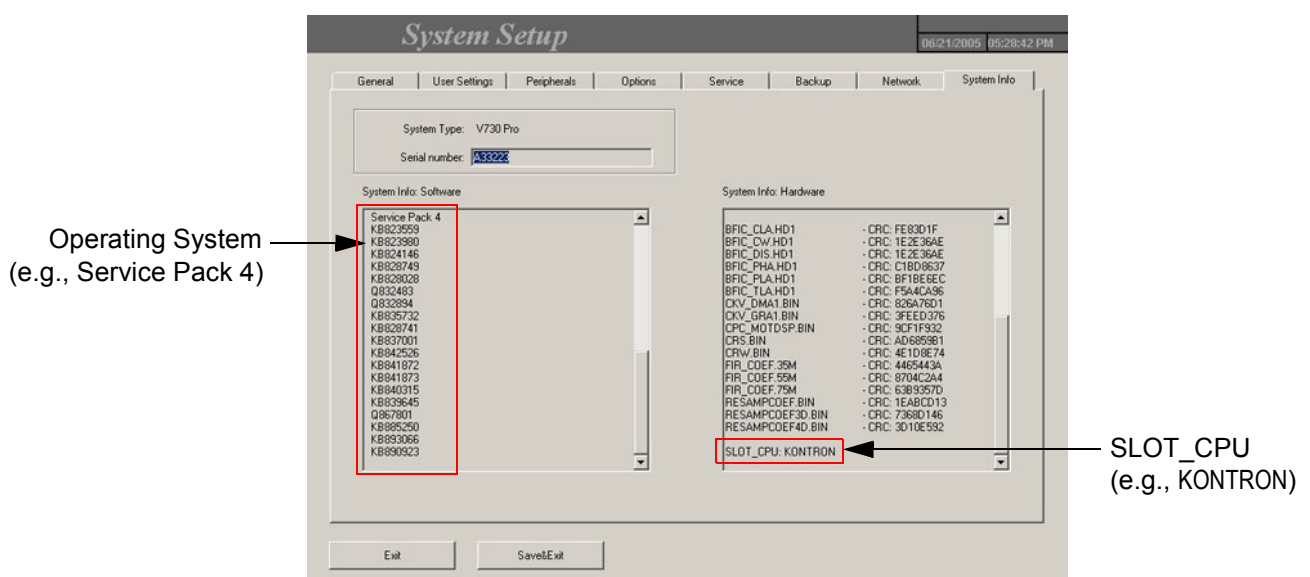

Figure 7-1 System Setup - System Info page (e.g. V730 Pro)
- 2.) Vital system data (see: Figure 7-1 on page 7-2)